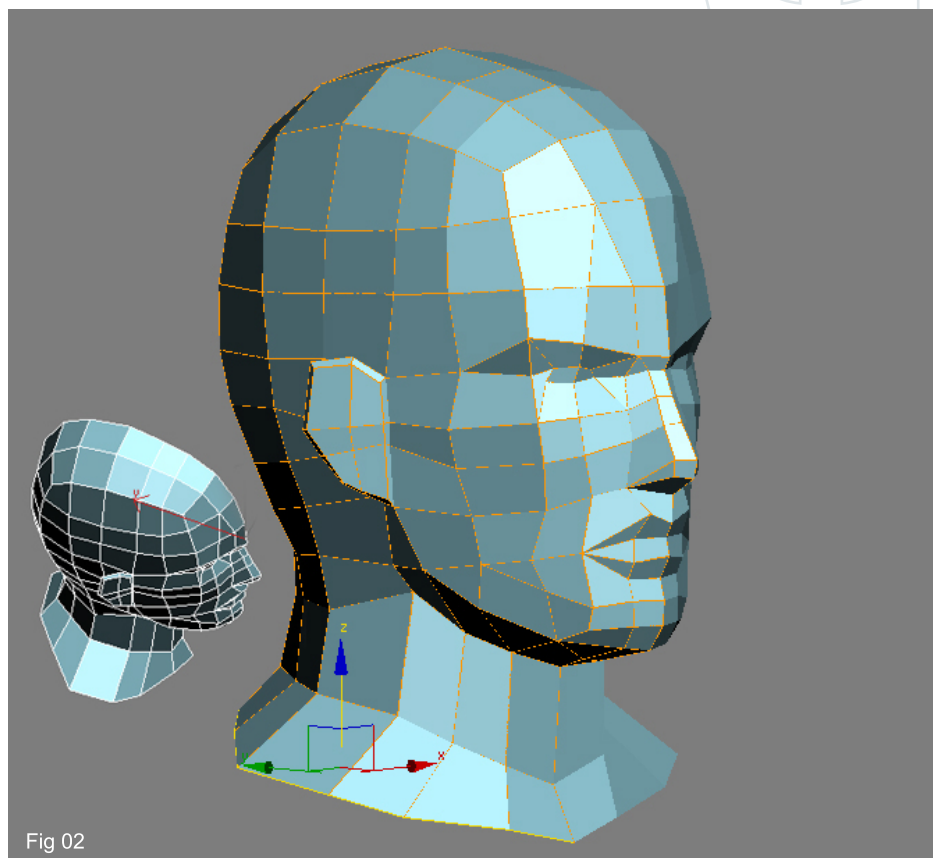

Fig 02
2. When you have done this start to pull the verts outwards to form the top of the shoulders (Fig02). You can see in the illustration that the small picture shows the positions that the new verts have taken up.